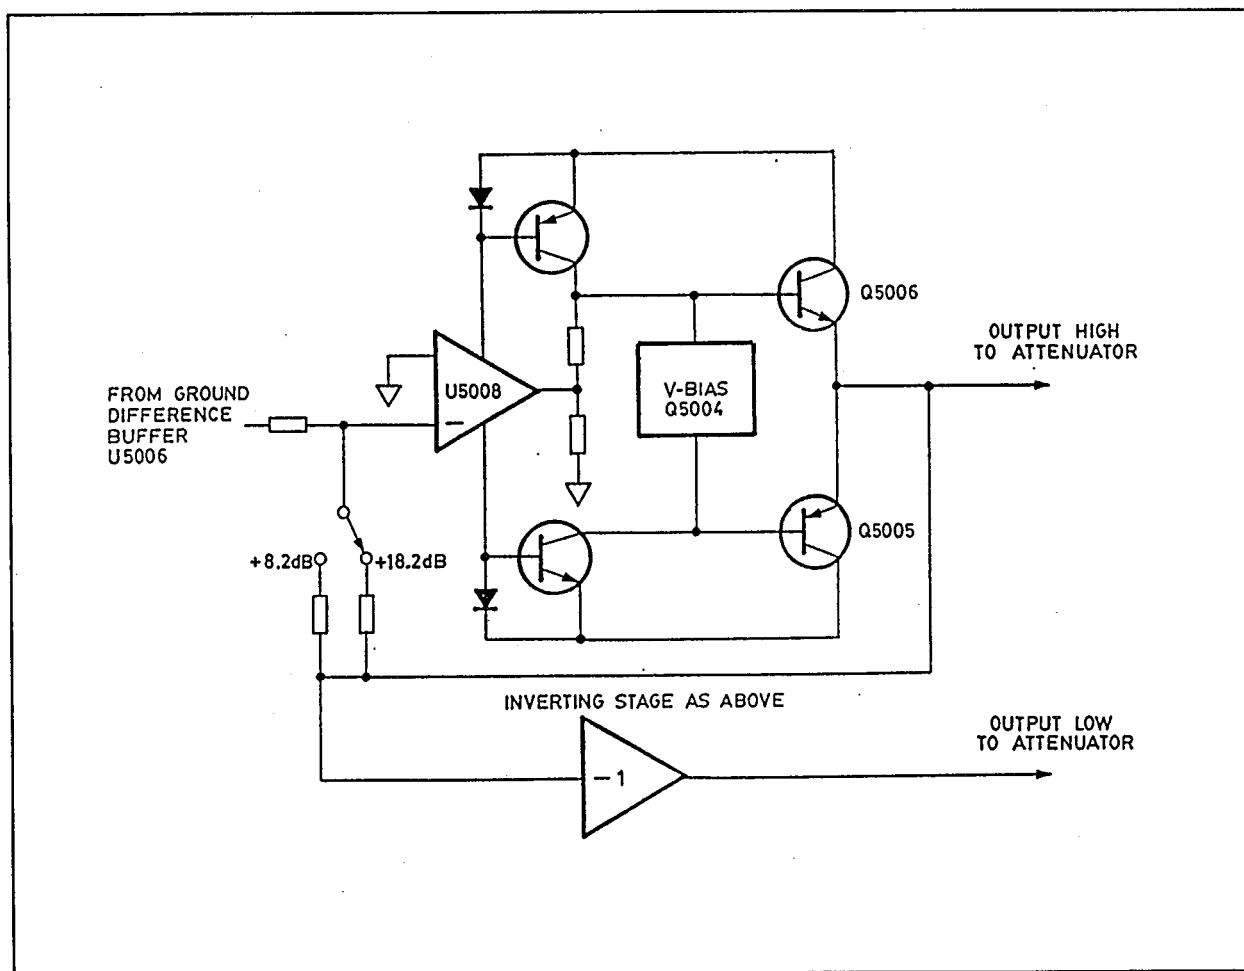

Fig. 5.5.3 Output power amplifier simplified
5.5.4 FLOATING POWER AMPLIFIERS (Figure 5-5.3)